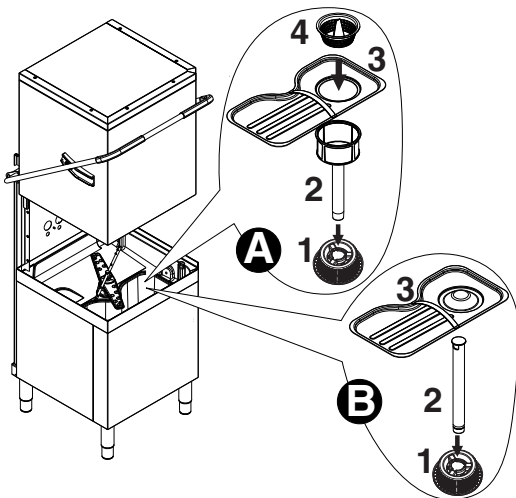

Figure 17 Filters and overflow
In versions with supplementary filtering system (FS), make sure the pump suction filter "1", the tank filter "2", the flat filter "3" and the basket filter "4" are correctly fitted ("A" - Figure 17).
In versions without supplementary filtering system (FS), make sure the pump suction filter "1", the overflow "2" and the flat filter "3" are correctly fitted ("B" - Figure 17).